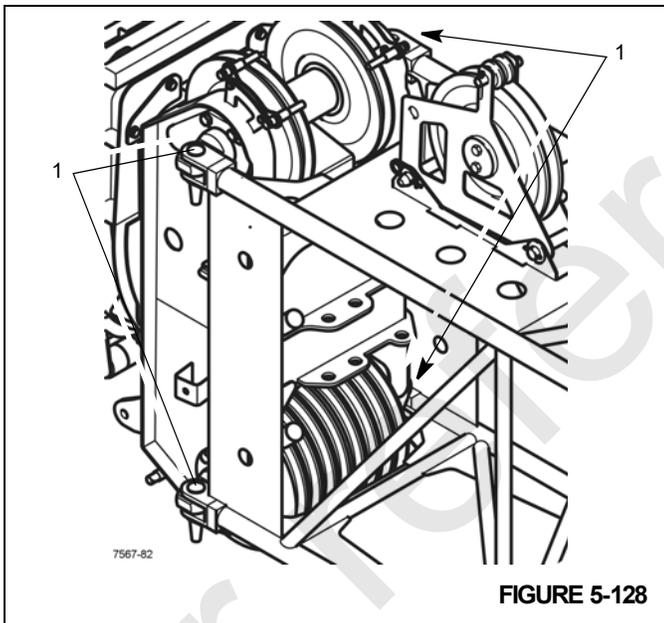

FIGURE 5-128
4. Lift the insert in front of the main boom head so that the four connecting points (1), (Figure 5-128) align on both sides.
6. Insert the pins into the connecting points (1), (Figure 5-128) and secure them with retaining clips.
5. Remove the pins from the connecting points (1), (Figure 5-128).